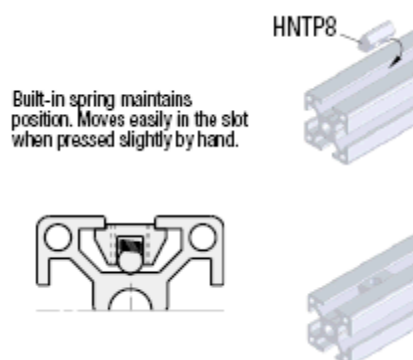

Figure 2-2 Installing the insertion nuts into the aluminum extrusion channel
2.3.4 Next, prepare to install all components to the Pedestal Mount using the supplied fastener components. The insertion nuts install into the Pedestal Aluminum Extrusion channel and contain a spring-loaded ball feature to hold them in place during assembly. To install the insertion nuts into the Aluminum Extrusion channel, insert the insertion nuts into the extrusion channel at an angle as shown in Figure 2-2, below: